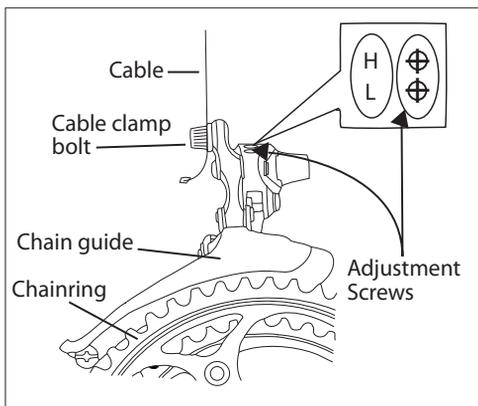

Fig. 53: Front Derailleur Adjustments.
2. Decrease the tightness of the cable clamp bolt (Fig. 53) until the cable is free.